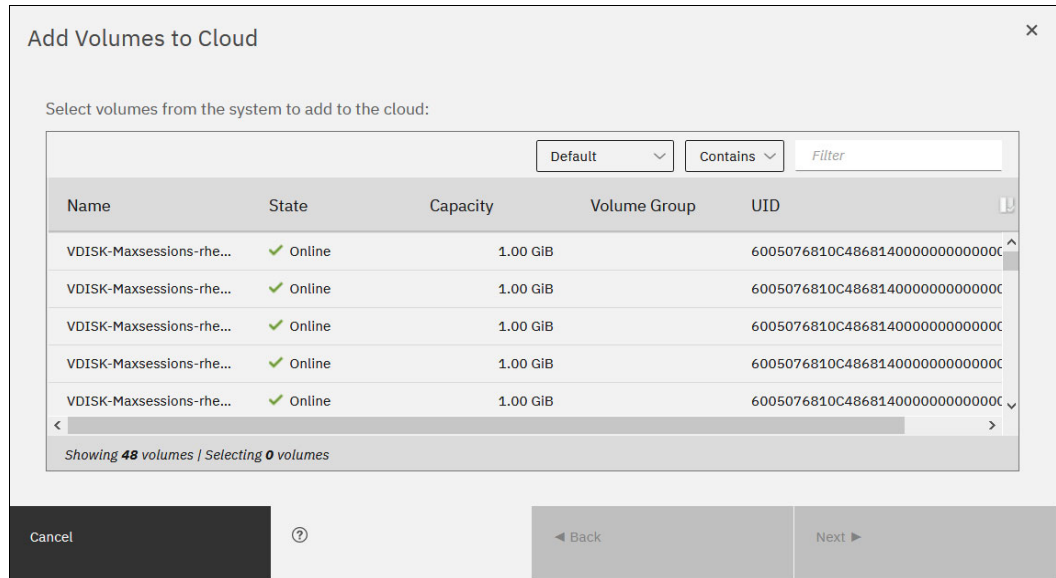

Figure 10-72 Add Volumes to Cloud
3. Click **Add Volumes** to enable cloud-snapshot on volumes. A new window opens, as shown in Figure 10-72 on page 629. Select the volumes that you want to enable TCT for and click **Next**.